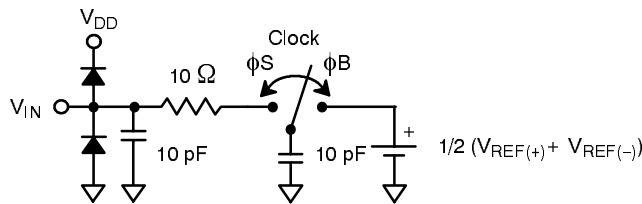

Figure 5. Analog Input Equivalent Circuit
- ⁵ See V_{IN} input equivalent circuit (Figure 5.) for high sampling rates. Switched capacitor analog input requires driver with low output resistance.